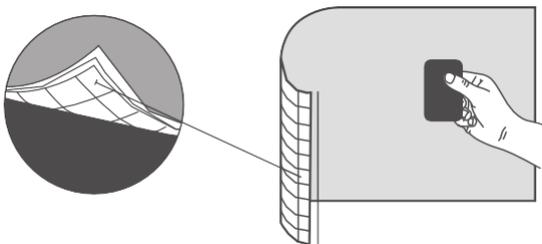

Figure 1: 3M™ Comply™ Air-Release Channels
- Easy Application — 3M™ Comply™ Adhesive technology virtually eliminates air bubbles, simplifying and speeding application (see Figure 1).